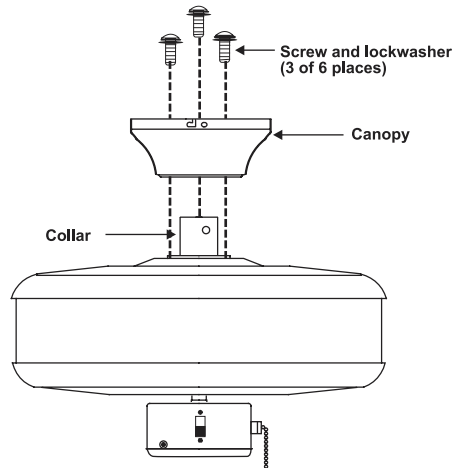

Fig.9
4. Place the ceiling canopy over the collar at the top of the motor. Align the mounting holes with the holes in the motor and fasten using the screws and lock washers provided (Fig.9).
5. Tighten the mounting screws securely.(Fig.9)